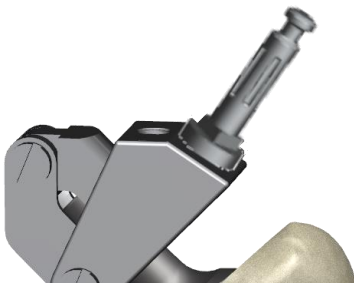
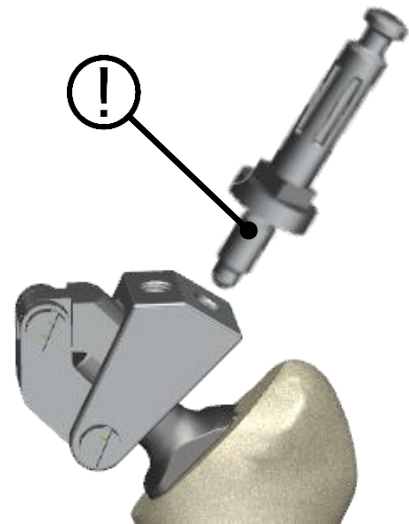

Figure 9: Stem extractor with IMT adapter for Stem extractor (detailed view)
Figure 10: Stem extractor IMT adapter for Stem extractor in necessary alignment to the implant
- Taking into account the axis of the stem, screw the *IMT adapter for Stem extractor* into one of the two drill-holes of the *Stem extractor* until the cone is firmly in position (Figure 9 and Figure 10).